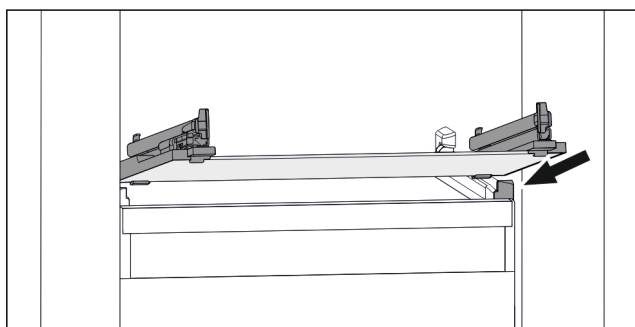

Fig. 124 Example illustration of glass shelf
- Position glass shelf at an angle behind the stoppers. (see Fig. 124)